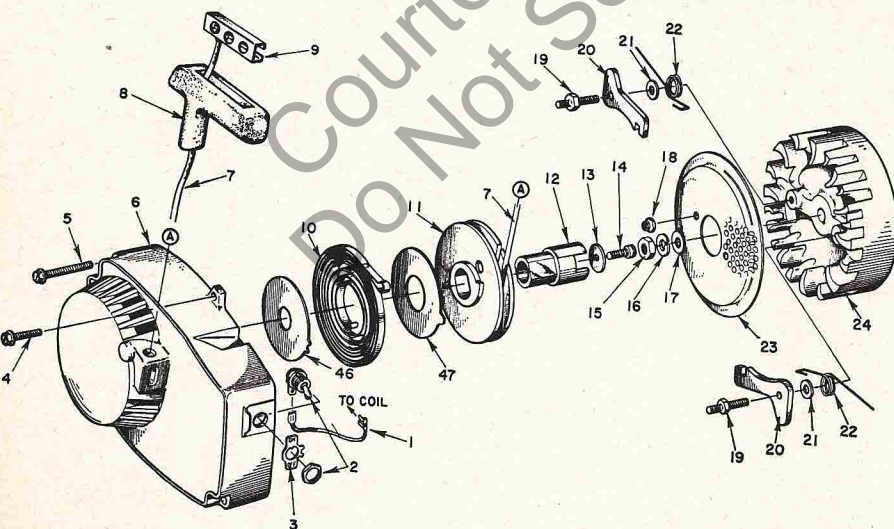

Fig. HL42A — Exploded view of late rewind starter and related parts. Plastic shields (46 and 47) keep sawdust out of rewind spring (10) and dampen noise.
Fig. HL42 — Exploded view of early rewind starter components and related parts. Starter unit is mounted on shaft (starter post) which is an integral part of the blower housing. Refer to Fig. HL42A for late starter assembly.
Install new spring with loop in outer end over pin in blower housing and be sure spring is coiled in direction shown in Fig. HL42. Install bushing (7), if so equipped, and pulley (12), turning pulley clockwise until it engages spring. Install starter cup (13) and secure with washer and screw. Insert new rope through handle and hole in blower housing. Knot both ends of the rope and harden the knots with heat or cement. Turn pulley clockwise eight turns and slide knot in rope into slot and keyhole in pulley. Let starter pulley rewind slowly. Note: If not equipped with separate starter post bushing (7), late production plastic spring shields (46 & 47—Fig. HL42A) may be installed. Refer to following paragraph on late type starter.
**REWIND STARTER (LATE).** Exploded view of late production starter is shown in Fig. HL42A. Service on the late type starter is similar to that outlined for early production starter in preceding paragraph except that plastic shields (46 and 47) are installed at each side of spring (10).